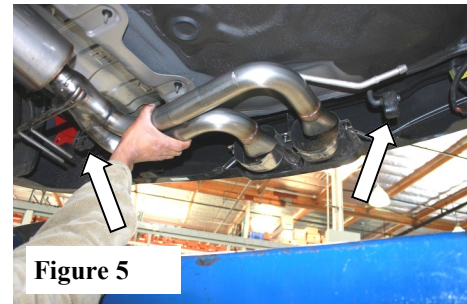

Figure 5
2. Position both tip exits into factory tip exits. Insert muffler hangars into rubber isolators. (See Fig. 5)